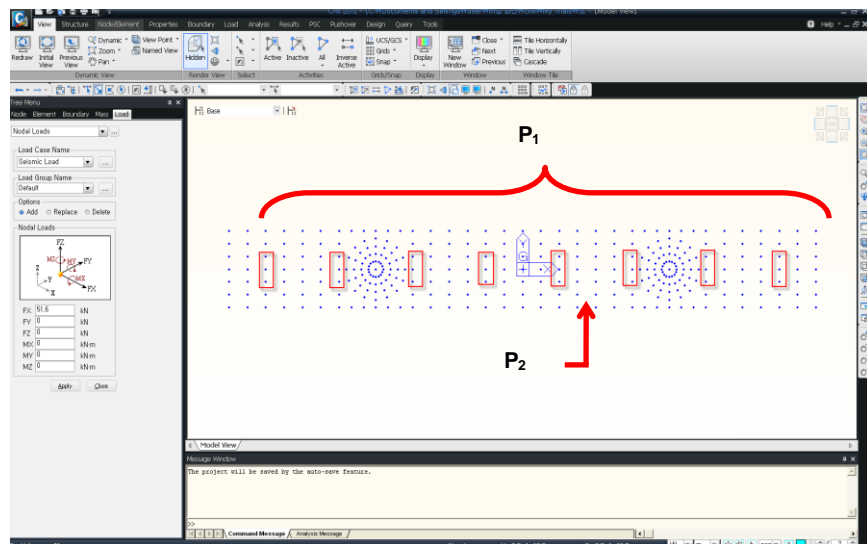

Figure 5.20 Loading Locations
Select and activate only the nodes at the top of the structure to specify the vertical loads applied to the top (Fig.5.20).
The locations of the vertical and seismic loads are shown in Fig. 5.20.
1. Click  **Select Window** to select the parts loaded with P_1 (Fig.5.20).
8. Click  **Select Window** to select the parts loaded with P_2 (Fig.5.20).